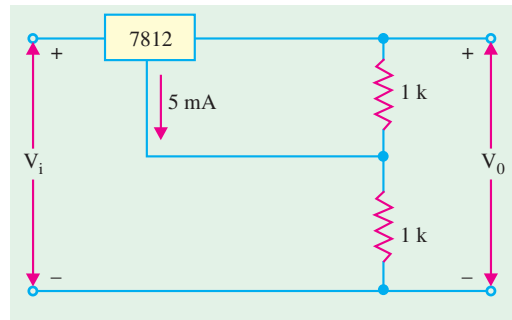

Fig. 56.34
14. A 12 V monolithic regulator is adjusted to obtain a higher output voltage as shown in Fig. 56.34. The V_0 will be